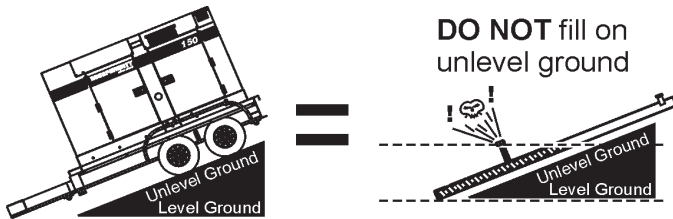

Figure 32. Only Fill on Level Ground
1. **Level Tanks** – Make sure fuel cells are level with the ground. Failure to do so will cause fuel to spill from the tank before reaching full capacity (Figure 32).